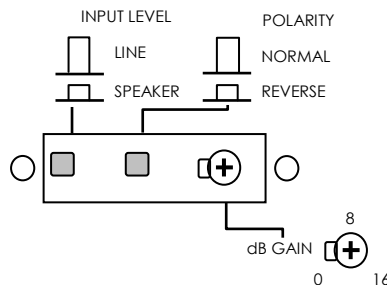

Figure 6 – Amplifier Switch and gain settings
- 4) For operation without the optional external volume control, connect the amplifier inputs to the VARIABLE LINE OUT of your receiver using shielded RCA patch cables. In this case the amplifier volume will be determined by the volume setting of the source component. If the receiver does not have line level outputs, the ME-50 can be connected to the speaker outputs, however line level is preferred due to superior noise and distortion performance. See Figure 6 for amplifier settings related to input connections.